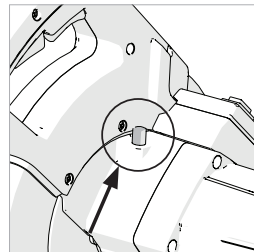

Fig. 39
- Press & keep pressed the black arbor lock button to lock the arbor. **(Fig. 39)**